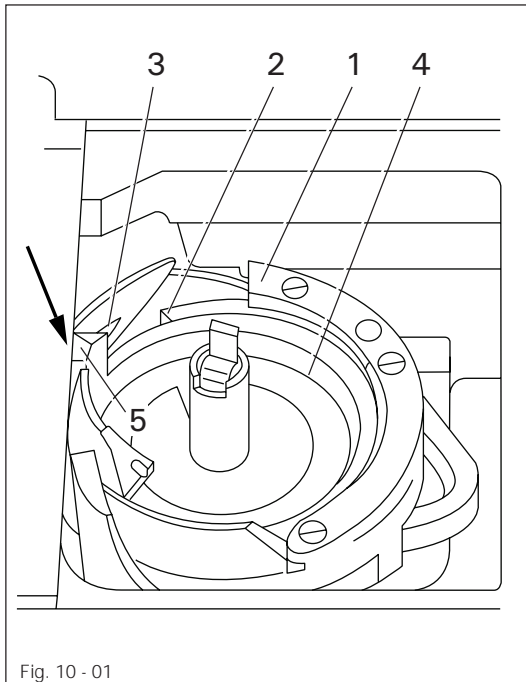

Fig. 10 - 01
- Lubricate all bearings and moving parts marked in Fig. 10 - 05 twice a week.